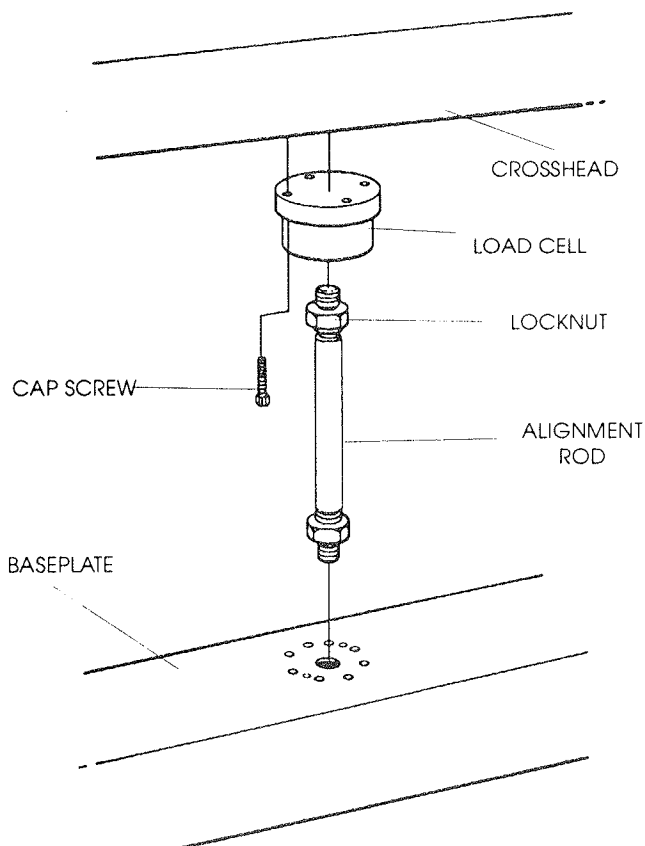

Figure 5-1. Load Cell Installation
- (c) Use the 1/4 in. hex key wrench to thread the eight 3/8 -24 by 2 1/4 in. cap screws through the load cell flange and into the crosshead. Refer to Figure 5-1.